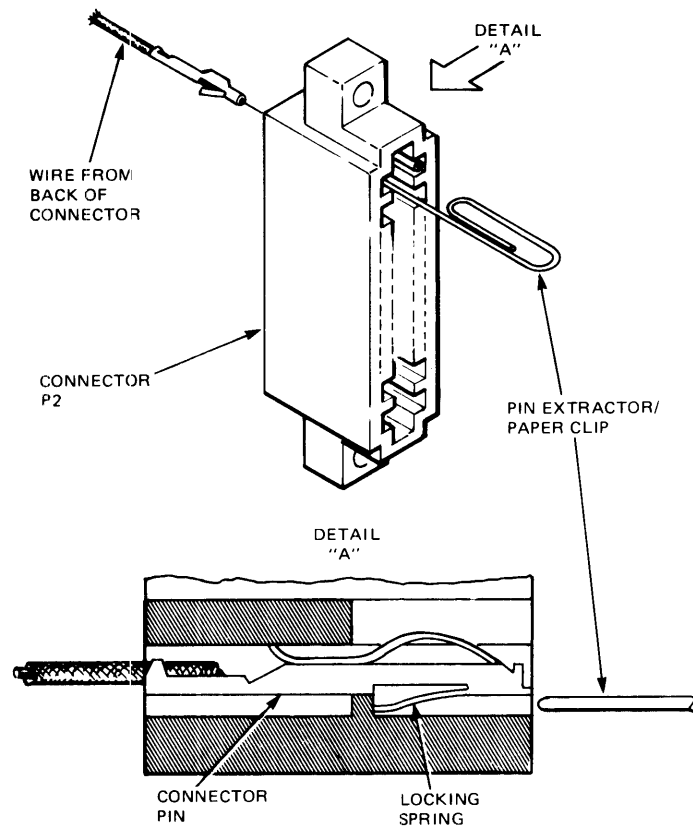

Figure 2-13. Connector P2 Pin Extraction
- e. Refer to Figure 2-13. Carefully hold the moveable arm of head 1 with one finger while pushing the load bail up and back until the tab on the movable arm clears the head load bail. Be sure that the bail clears the head load arm before releasing the bail.
- h. Refer to Figure 2-13. Release the safety catch on the guide opening assembly by pressing the catch towards the rear of the drive. When the catch is released, swing the cartridge guide assembly up and away from the frame of the disc drive, as illustrated in Figure 2-13.